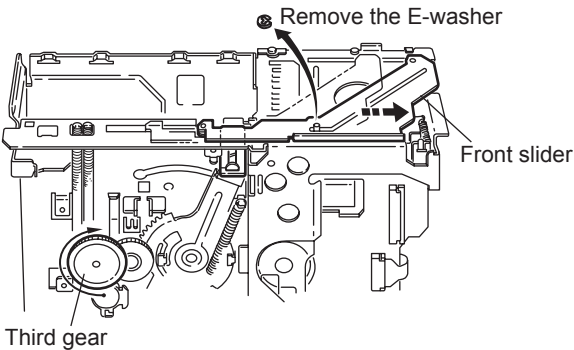

Fig.5
(See Fig.5 to 9)
**(See Fig.5)**
- (1) Position the unit with the rear section facing down. Rotate the third gear located on the bottom of the unit in the direction of the arrow (clockwise) until the front slider is shifted to the outermost position.
- (2) Remove the E-washer securing the front slider to remove the front slider from the chassis